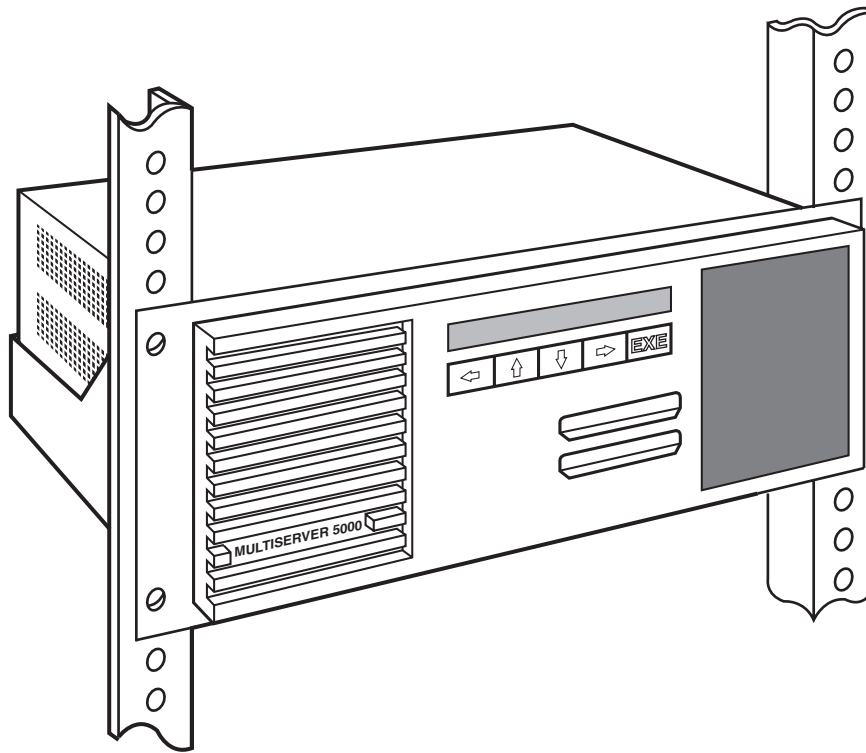

Figure G-2. The Multiserver fully installed in a 19-inch rack with the Rackmount Kit.
3. Position the unit on the tray from the rear. Put the front of the standalone unit through the cutout in the front of the rackmount tray (see **Figure G-2**).